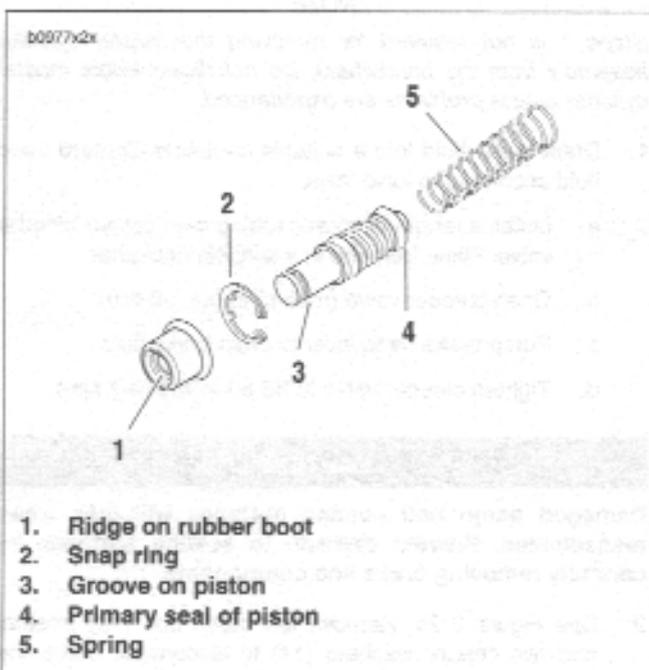

Figure 2-34. Front Master Cylinder Piston Assembly
2. See Figure 2-34. Assemble new piston components placing small end of spring (5) behind primary seal of piston (4).
6. See Figure 2-34. Install ridge on boot (1) into groove on piston (3).